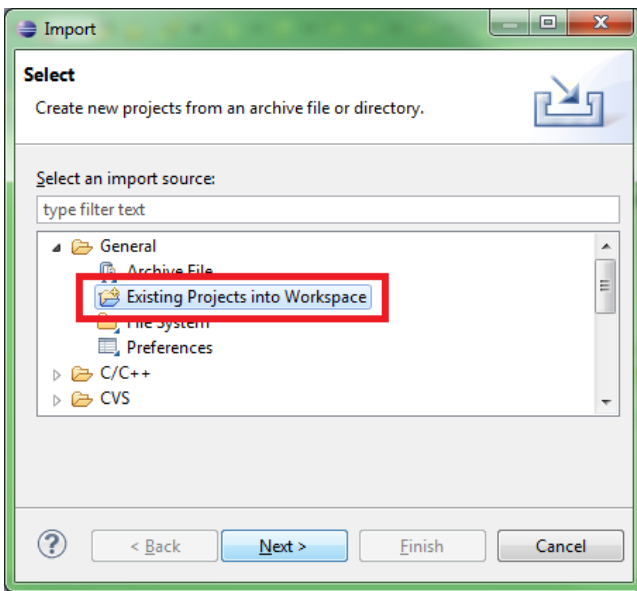

Figure 8: (import ...) Select General > 'Existing Projects into Workspace'
2. Select 'General' > 'Existing Projects into Workspace' and click Next. See Figure 8.